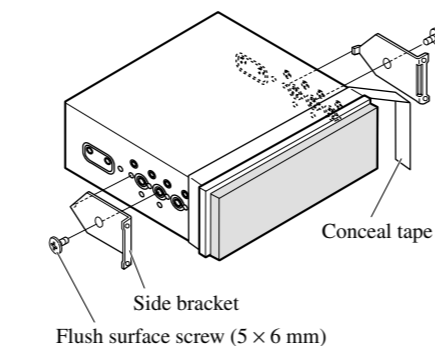

Fig. 11
1. **Decide the position of the side brackets. (Fig. 11)**